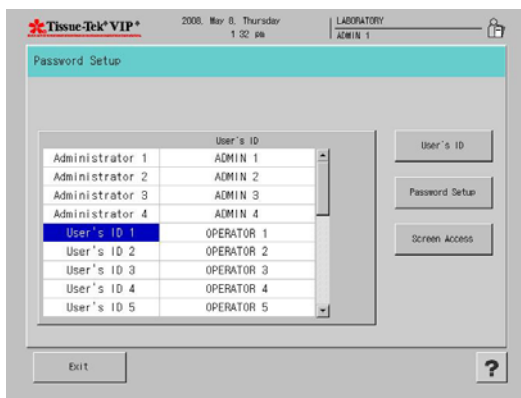

Figure 3-H
- The Password Setup screen displays (Figure 3-H). This screen allows you to create user IDs (user ID is the name that appears on all screens when a given user is logged in) and passwords, grant or deny screen access and modify existing users.